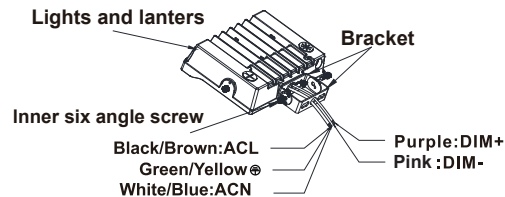

figure 2.5
Step 2: Finish the wire connection according to the right mode of connection (pay attention to positive wire, negative wire, and ground wire).(figure 2.5)